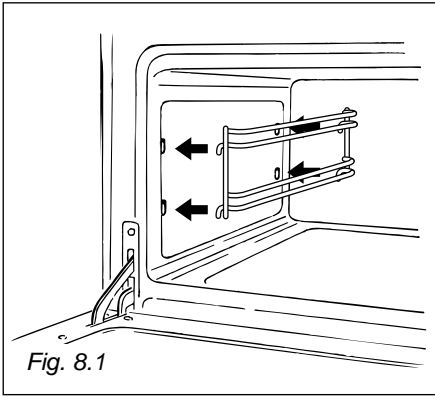

Fig. 8.1
- Hang up the wire racks on the oven walls (Figure 8.1 and 8.2).